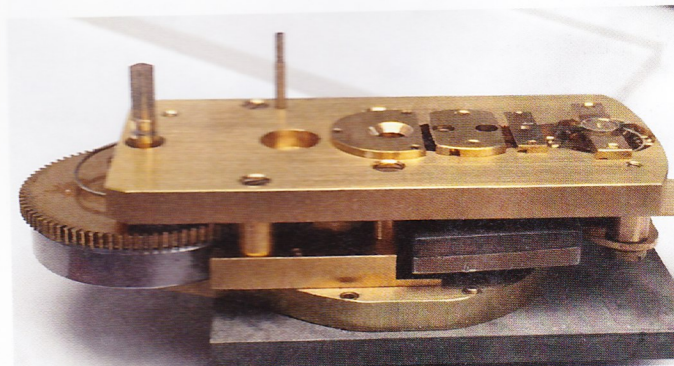

Figure 2. A side view of the Waltham barrel.
- The movement uses a Waltham barrel (Figure 2)